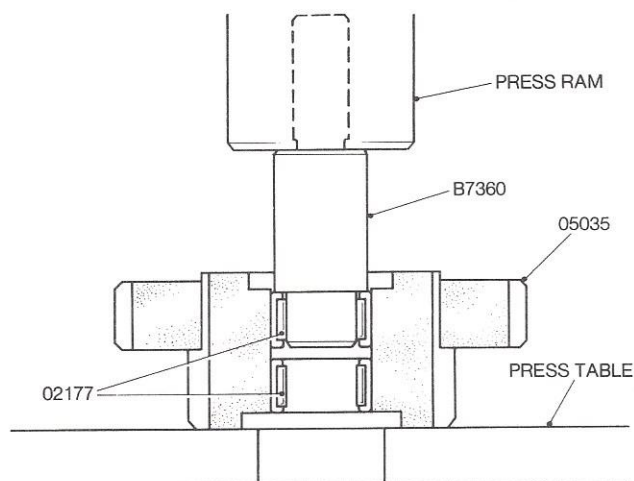

Figure 4 Removing the Layshaft Gear Needle Roller Bearings
- 6.1.4 When the Crankshaft Gear has also been removed (see 6.2.3 below), replace the Layshaft Gear Assembly and check for wear of the two Needle Roller Bearings in the bore. If the Bearings need replacing, the worn ones may be removed using Dismantling Press Tool B7360 to push both Bearings through from one end. See Figure 4.